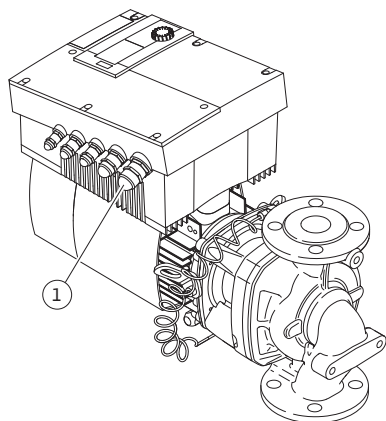

Fig. 28: M25 threaded cable connection
- The power cable is to be fed through the M25 threaded cable connection (Fig. 28, Item 1).